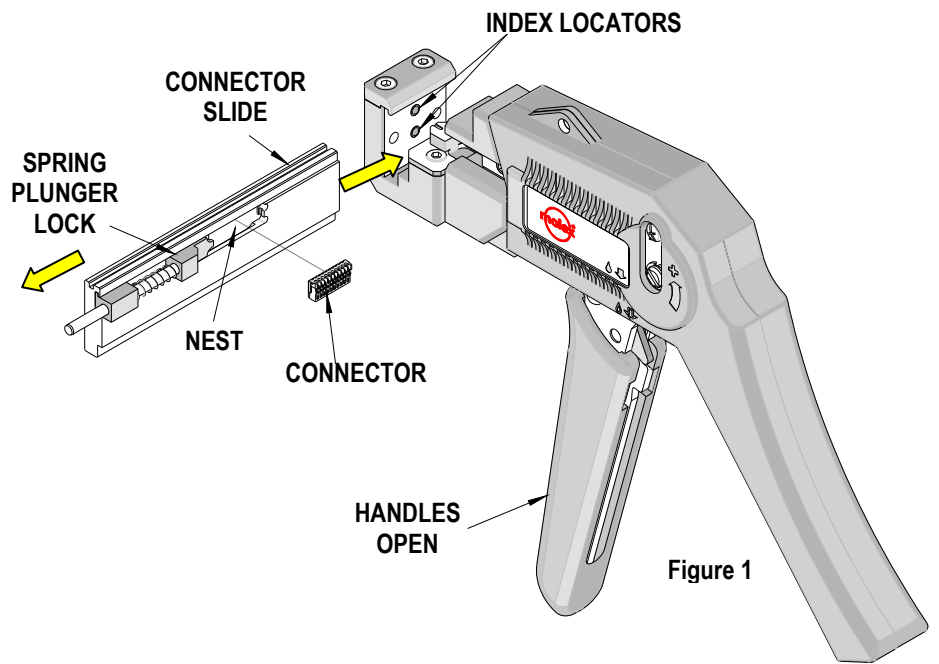

Figure 1
2. Place the proper connector into the connector slide; the flat side of the connector should be against the slide, and the slots should be facing up. See Figure 1.